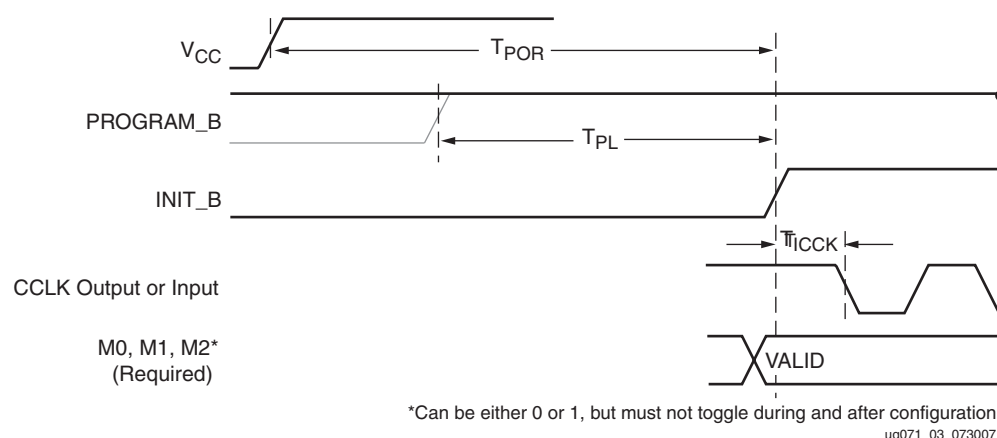

Figure 1-3: Device Power-Up Timing
Configuration memory is cleared sequentially any time the device is powered up, when the PROGRAM_B pin is pulsed Low, or when the JTAG JPROGRAM instruction is used. During this time, I/Os are placed in a high-Z state except for the dedicated Configuration and JTAG pins. INIT_B is held Low by the device during initialization, then released after T_{POR} (Figure 1-3.) If the INIT_B pin is held Low externally, the device waits at this point in the initialization process until the pin is released.
- The first is to hold the INIT_B pin Low during initialization (Figure 1-3). This method only works if INIT_B is prevented from going High. After INIT_B goes High, configuration cannot be delayed by subsequently pulling INIT_B Low.